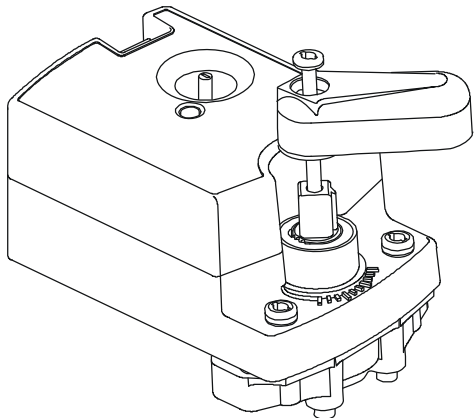

Figure 9: Installing the Handle
- Place the handle on top of the linkage drive shaft as shown in by Figure 9. The handle is keyed and mounts only in one orientation.